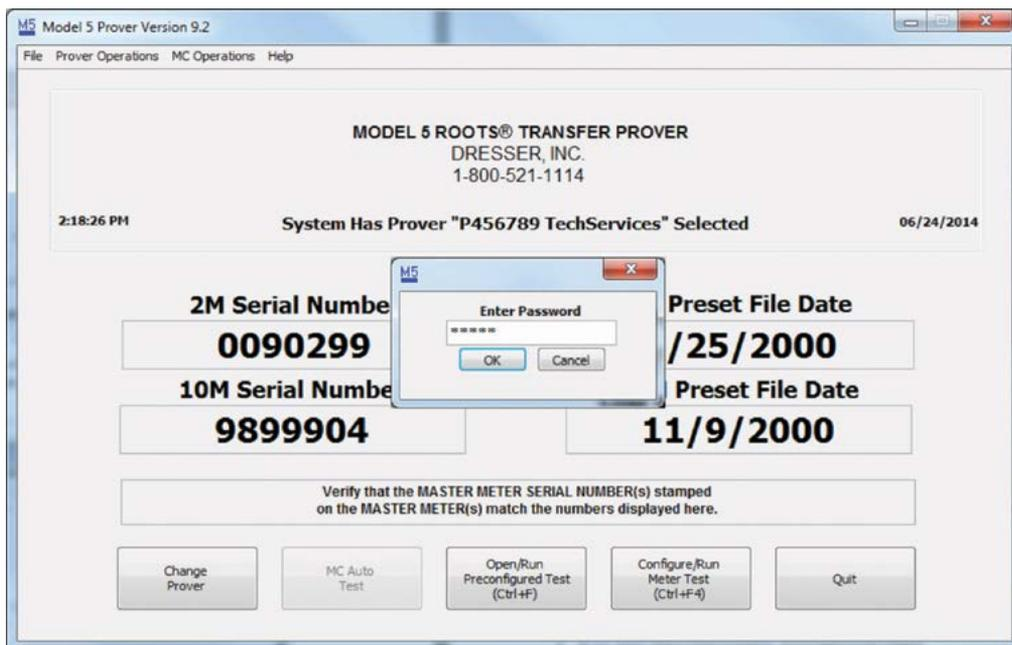

Figure 65: Password Dialogue Box
2. A small dialog box will appear. Enter the password "ROOTS" as shown in **Figure 65**.